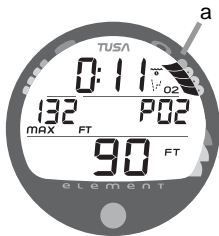

Fig. 25B - PLANNER
- If the O₂ Bar Graph is displayed (Fig. 25Ba), it is calculated to be controlled by O₂ saturation.